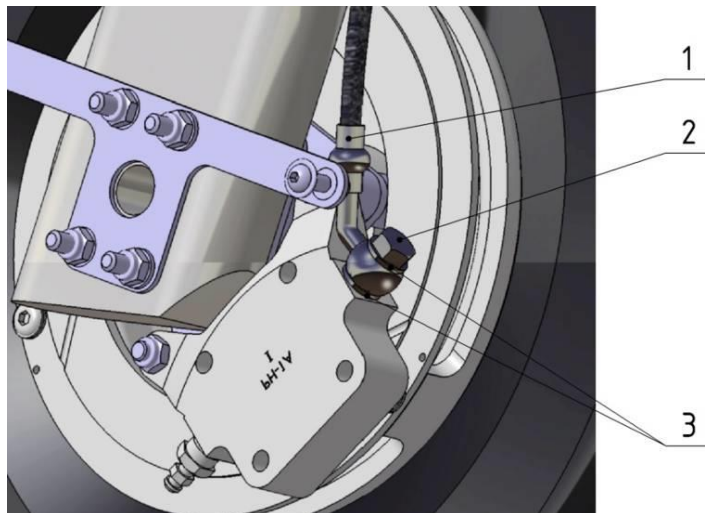

Fig. 32-10-8
2	Disconnect the wheel brake line (Fig. 32-10-8). Unscrew the Fitting, 1/8", FT0107 (2) from Caliper and disconnect the Brake hose (1). Drain brake liquid out of the.